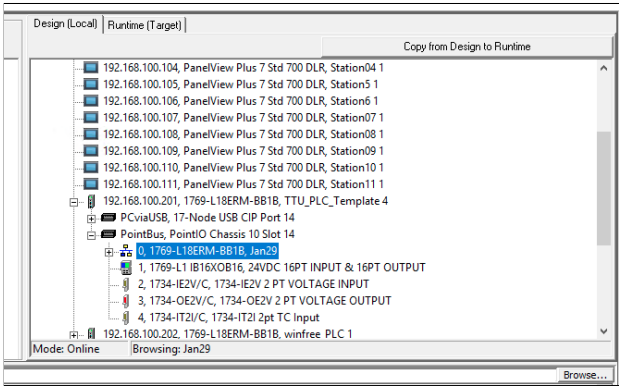

Figure 1.7: PLC Selection in HMI Communication Setup
In the window that opens, navigate to the PLC associated with your lab seat. **Click the plus beside the PLC associated with your lab seat.** **Click the plus beside the item named PointBus.** Now, **highlight the item 0.** Refer to Fig.1.7 for clarification.
*—Note 12— In Fig.1.7 the user was sitting in seat number 1. **You most likely will not select the same PLC IP address shown in the image.** Refer to Table1.1 to verify which IP address is associated with your seat.*